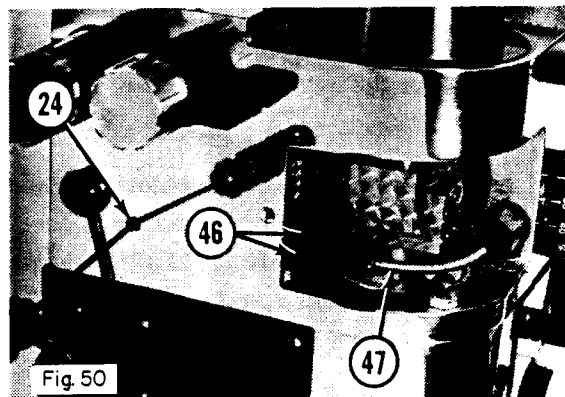

Fig. 50
- b. Loosen the setscrew (24) using an Allen wrench, as shown in Fig. 50.